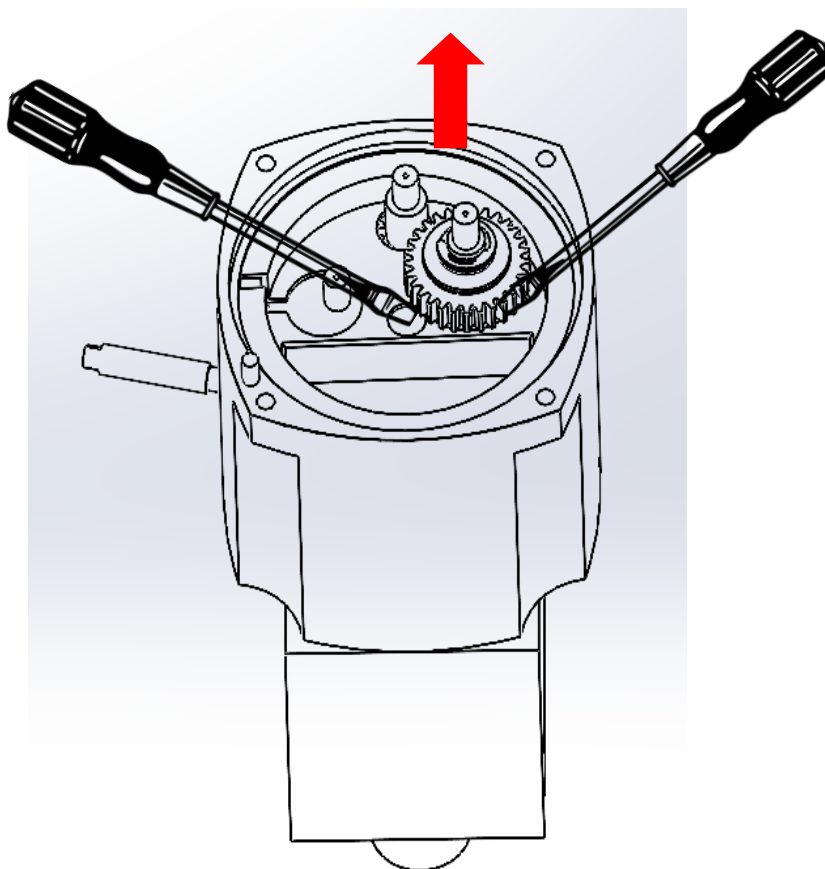

Figure 2.15
- 2.6.1 Using 2 levers, remove the part (mechanical clutch) in the direction of the red arrow (see figure 2.15) and if there is grease, clean it up;